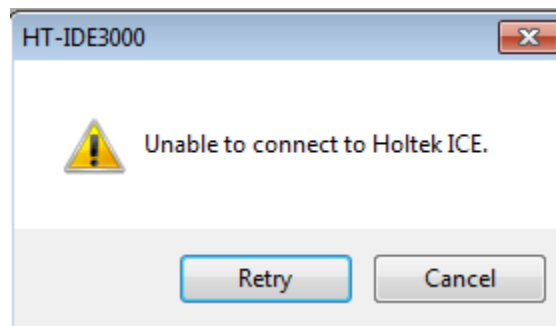

Fig 3-2
- Fig 3-2 will be displayed if the following conditions occur.